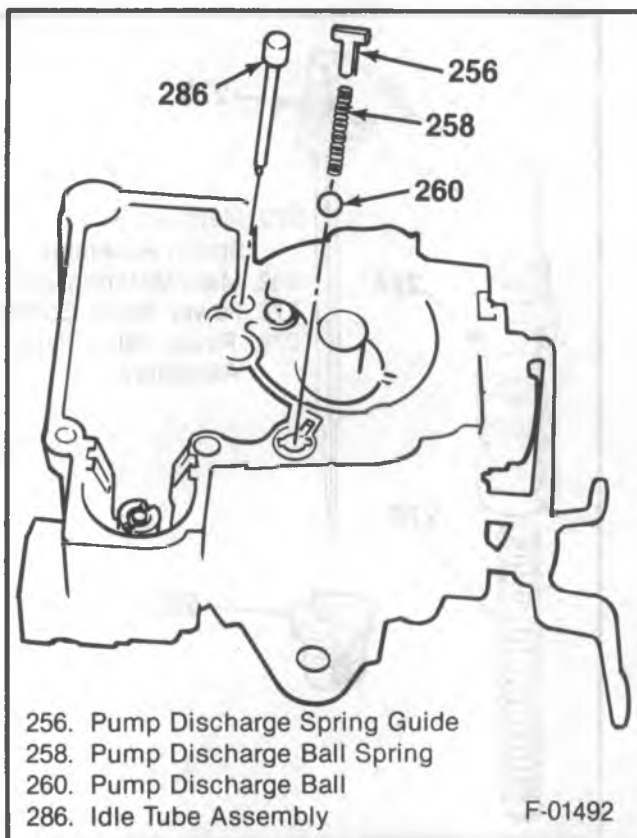

Figure 24 - Idle Tube and Pump Discharge Ball
- ↔ Remove or Disconnect (Figure 24)
- Idle tube assembly (286).
1. Pump discharge spring guide (256).
2. Pump discharge ball spring (258), and ball (260).